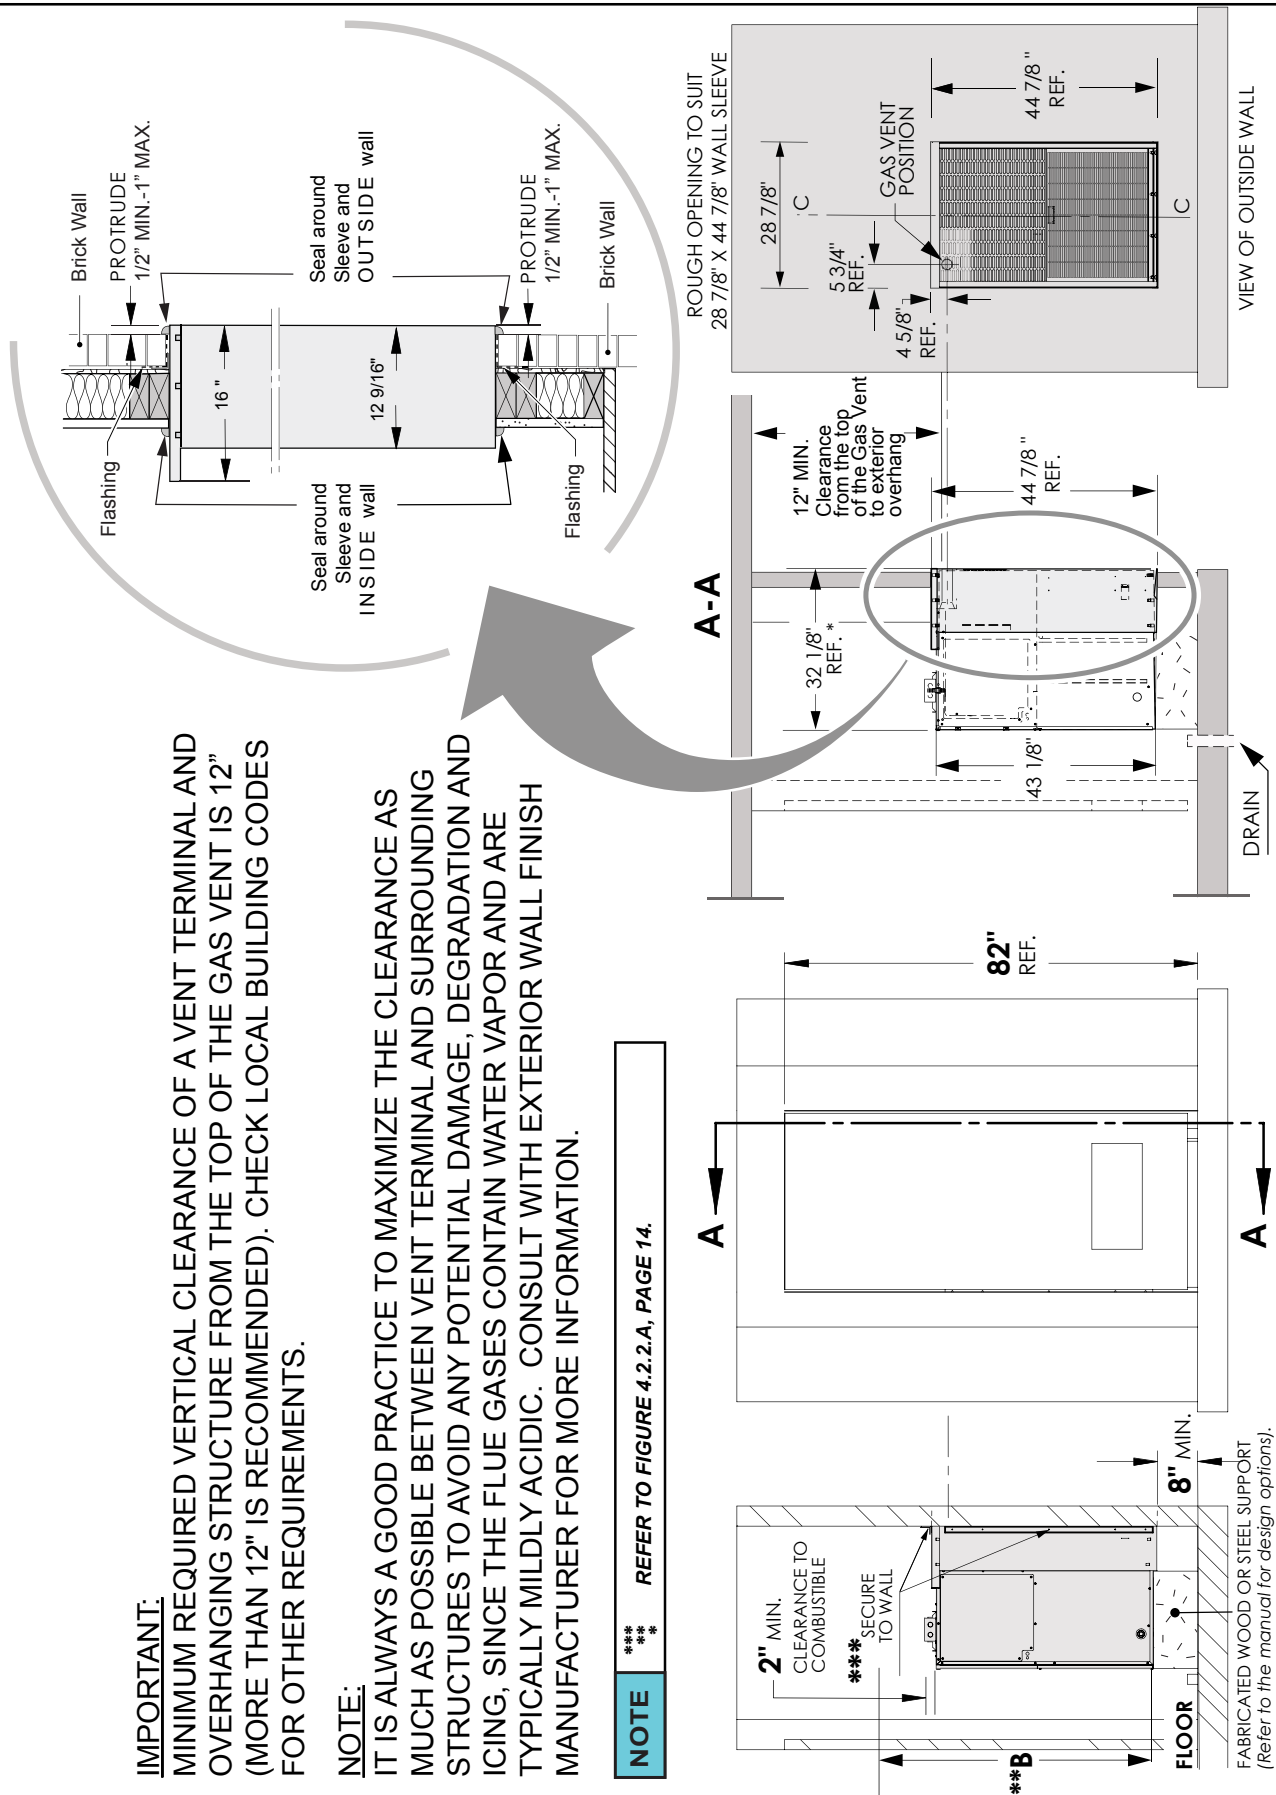

FIG. 4.2.2.B
- Do not install directly on carpeting, tile, or other combustible material other than wood flooring. The grille side of the unit must protrude minimum 1/2" but no more than 1" (maximum) from the face of the building and should not be obstructed by foreign objects. Refer to FIG. 4.2.2.B.
NOTE *** REFER TO FIGURE 4.2.2.A, PAGE 14.